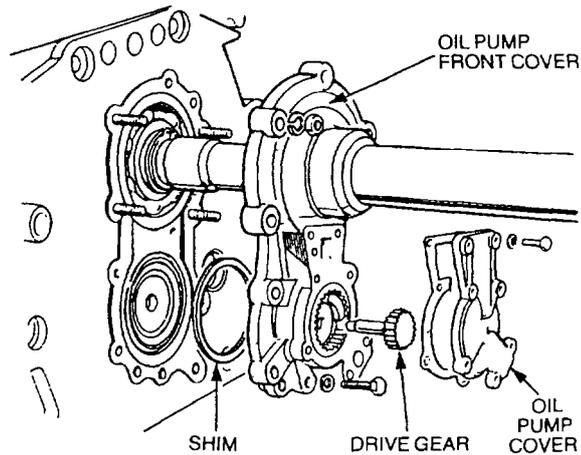

Figure 56 Oil Pump Front Cover Installation
- n. Ensure the shim is installed on the counter shaft front bearing; fit the oil pump front cover and a new gasket (Figure 56).